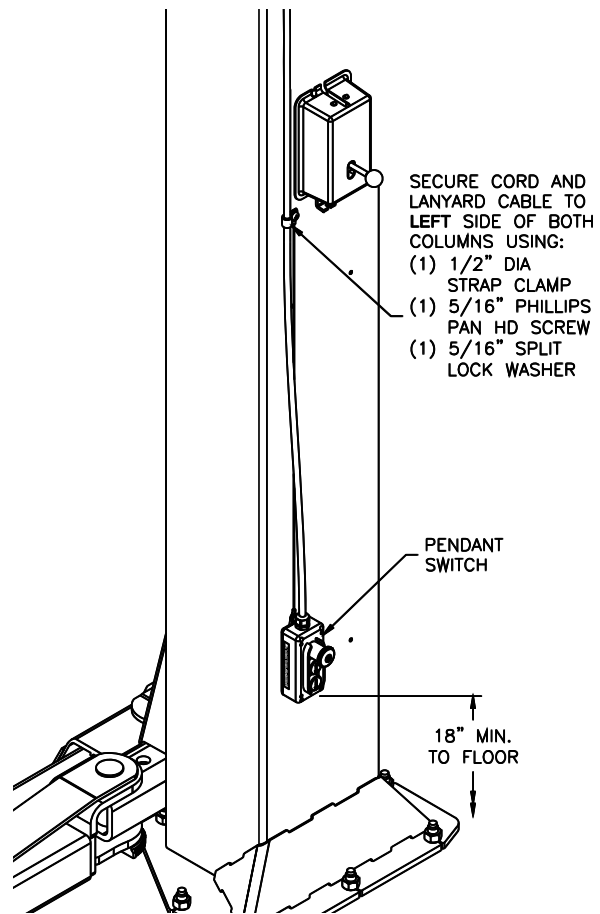

Fig 15 – Pendant Switch Installation
- 37) Locate the Pendant mounting hole on each column just below the lock cover on the left side. Tap hole on both columns 5/16-18NC. Hang both pendant switches using supplied 1/2" Line Clamp, 5/16-18 x 3/8 Lg. Pan Head Screw and 5/16" Split Lock Washer (**Fig 15**). Position Line Clamp around pendant wire. Insert screw thru lock washer, free end of Cable Lanyard, and Line Clamp and secure to column.